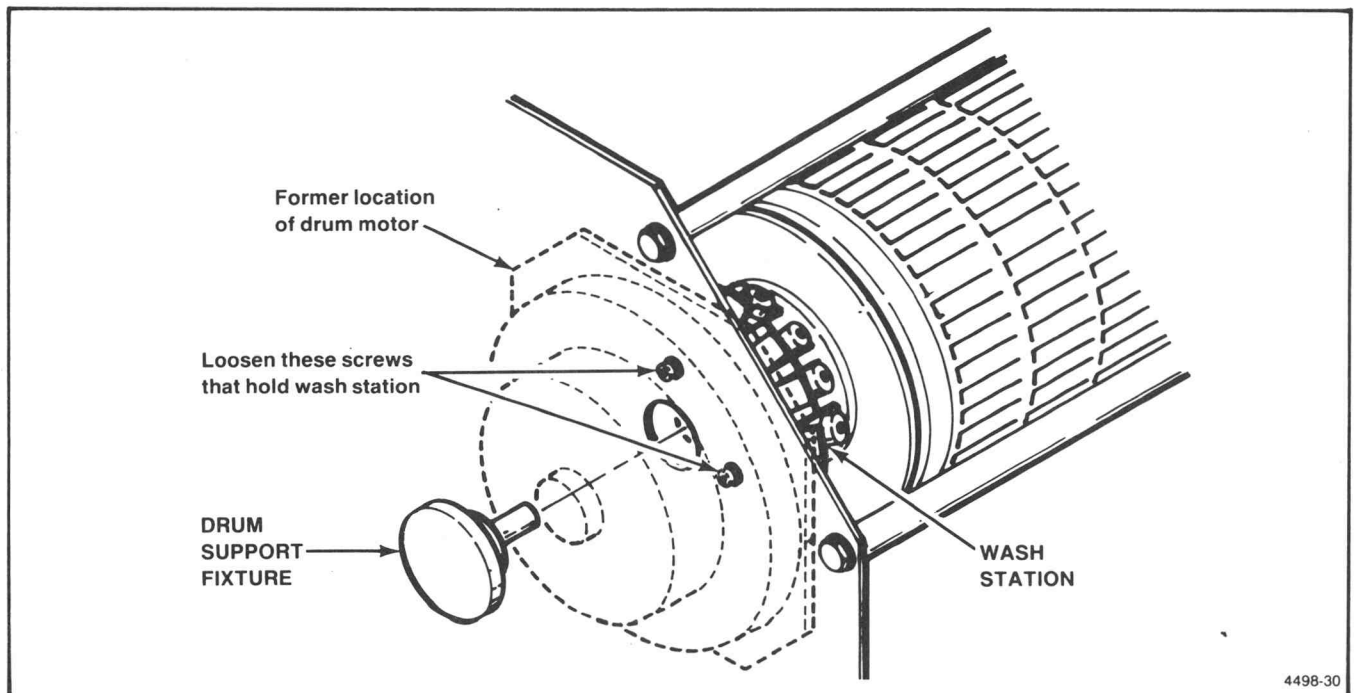

Figure 5-12. Wash Station Adjustment Locations.
4. Loosen (but do not remove) the two screws holding the wash station to the frame (see Figure 5-12). These screws are (or were) under the drum motor.